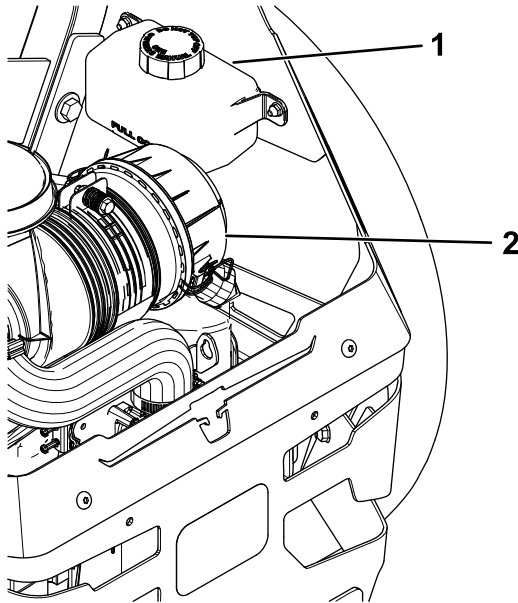

Figure 71
2. Check expansion reservoir and if necessary add Toro® HYPR-OIL™ 500 hydraulic fluid to the FULL COLD line (Figure 71).